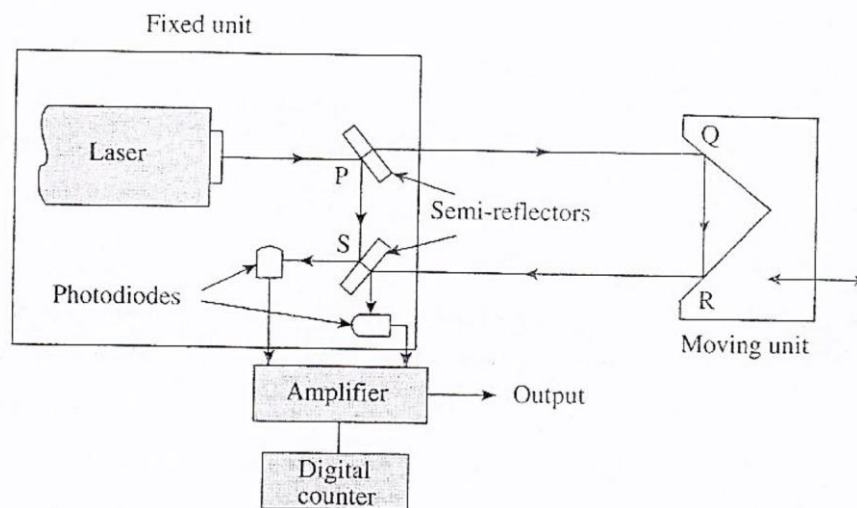

Fig.4.14 – laser Interferometers
- ▶ The laser-based instrument is shown in Fig. 4.14. The fixed unit called the laser head consists of a laser a pair of semi-reflectors, and two photodiodes. The sliding unit has a corner cube mounted on it.